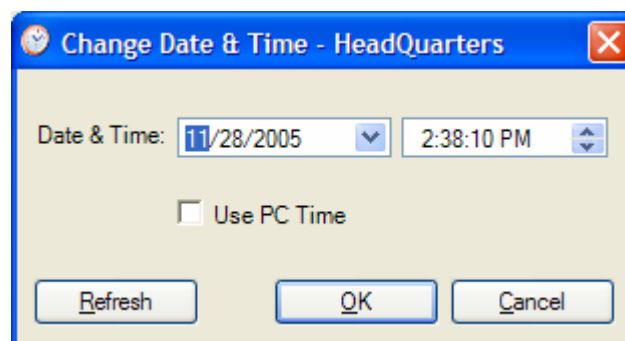

Figure 4-16. Manually changing date and time
6. To manually set the date and time, click Change (Figure 4-16) and edit the new values.